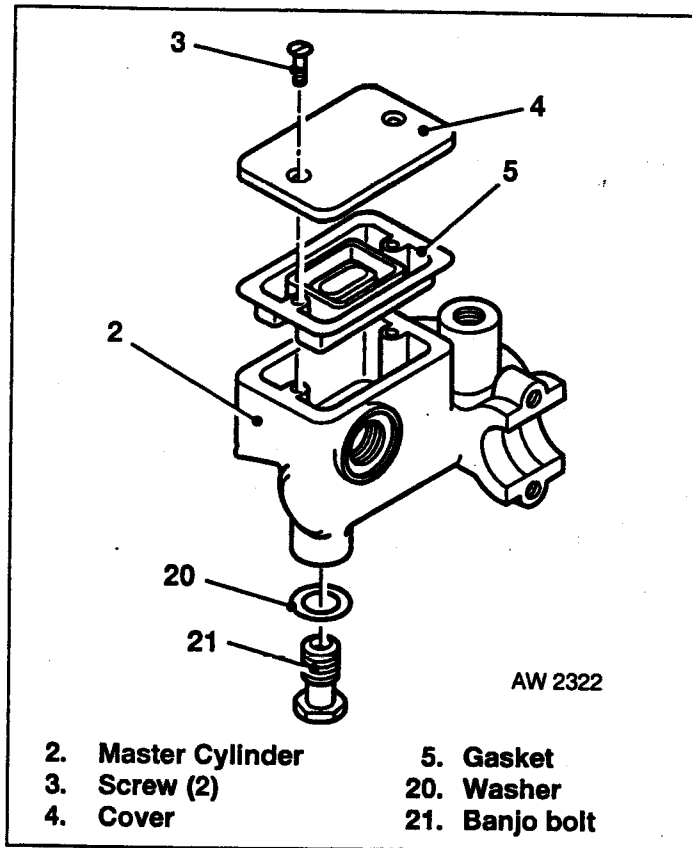

Fig 12.7 Master Cylinder/Reservoir Assembly
Fig 12.7 refers. Be sure washer (20), banjo bolt (21), hydraulic brake line and master cylinder bore are free of DOT 3 hydraulic brake fluid, dirt and metal chips before assembly to avoid leakage.
- f. Install banjo bolt (21), washer (20) and hydraulic brake line in master cylinder/reservoir.